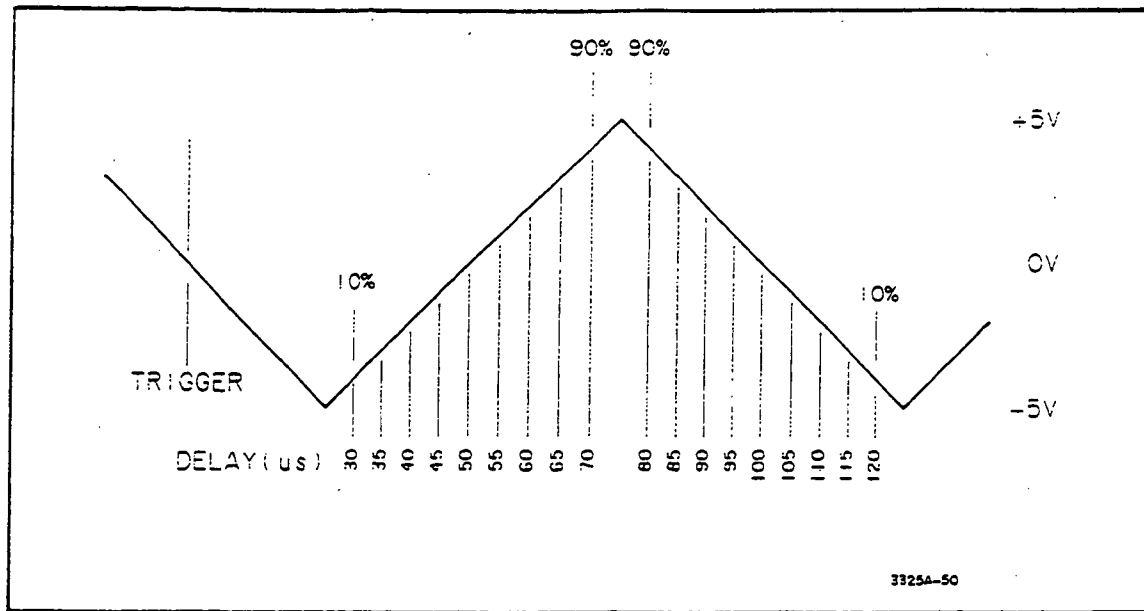

Figure 4-11. Triangle Linearity Test.
a. Connect the 3325A signal output through the 50-ohm feedthru termination to the dc digital voltmeter input (see Figure 4-11(A)).
d. Set the digital voltmeter delay to .00003 (seconds). Record the digital voltmeter reading on the Performance Test Record under "Positive Slope Measurement, (10%)  $y_1$ ". This is the 10% point on the positive slope of the triangle. See Figure 4-11.